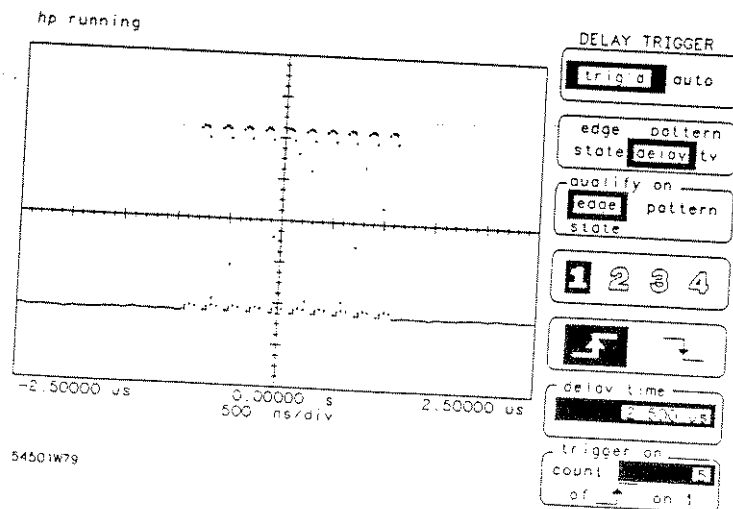

Figure 6-15. Ten Burst Pulse Triggered on Pulse 5
- Return to the trigger menu and set trigger on count to 5. This tells the oscilloscope to trigger on the 5th rising edge of the burst (see Figure 6-15).